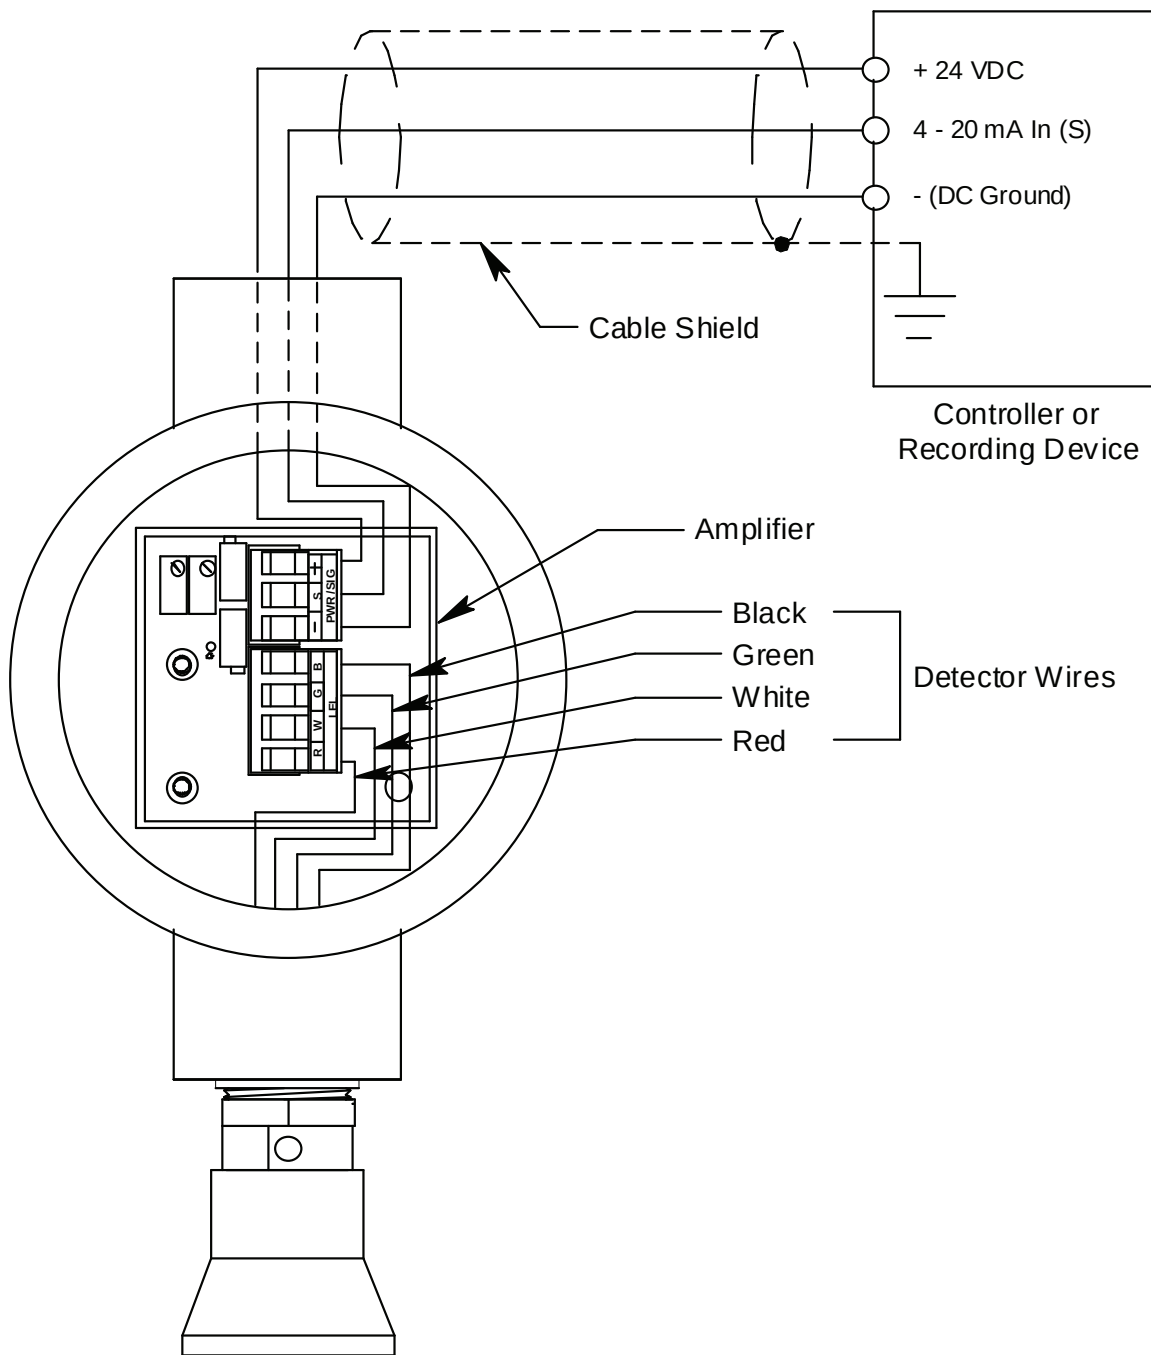

Figure 3: Wiring the Hydrogen Transmitter to a Controller
4. The detector leads are factory wired. Verify that the detector leads are wired to the amplifier's detector terminal strip as shown in Figure 3.
7. Pull out the controller terminal strip, and connect the three wires to the terminal strip as follows (see Figure 3).
11. Connect the wires to the applicable detector / transmitter terminal strip at the controller as shown in Figure 3.
8. Connect the detector leads to the detector terminal strip as shown in Table 3 below and Figure 3 on page 6 of this manual.
8. Install the detector and controller terminals strips into their sockets on the new amplifier as shown in Figure 3 on page 6 of this manual. If controller leads or detector leads were removed during this procedure, refer to Table 4 and Table 5 below.